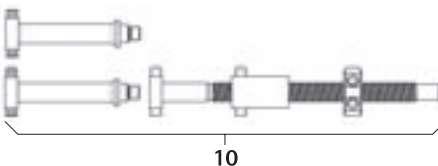

Fig. 16
- Mount distraction spindle **10**, see Fig. 16.